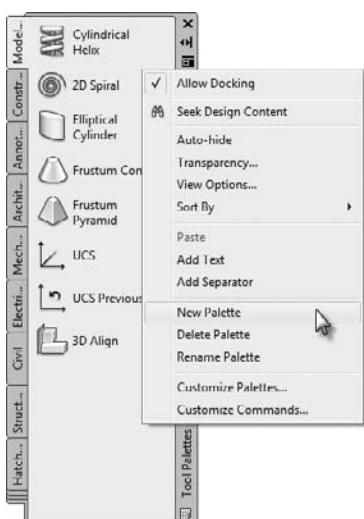

FIGURE 11.26 Creating a new tool palette
3. Place the cursor on a blank space on the palettes, right-click, and choose New Palette, as shown in Figure 11.26.